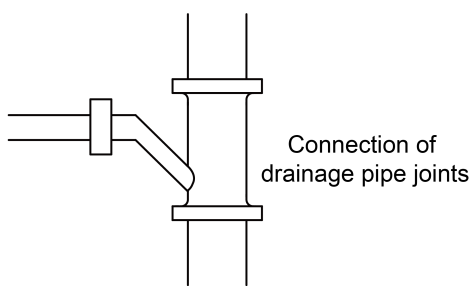
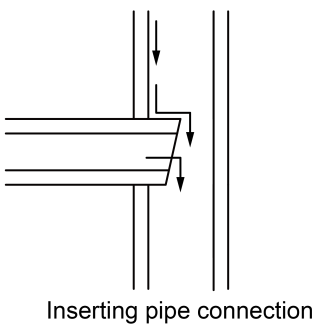

Fig 4.13
Fig 4.15
(9) The horizontal pipe can be connected to vertical pipe in the same level; please select the connection way as shown in Fig4.13~ Fig4.15
- ① : Connection of drainage pipe joints (Fig 4.13)
- ③ : Inserting pipe connection (Fig 4.15)
(10) The installation height of raising pipe for drainage should be lower than 850mm. The gradient from raising pipe towards drainage direction should be at least 1%~2%. If the raising pipe is vertical with the unit, the raising height should be less than 800mm.